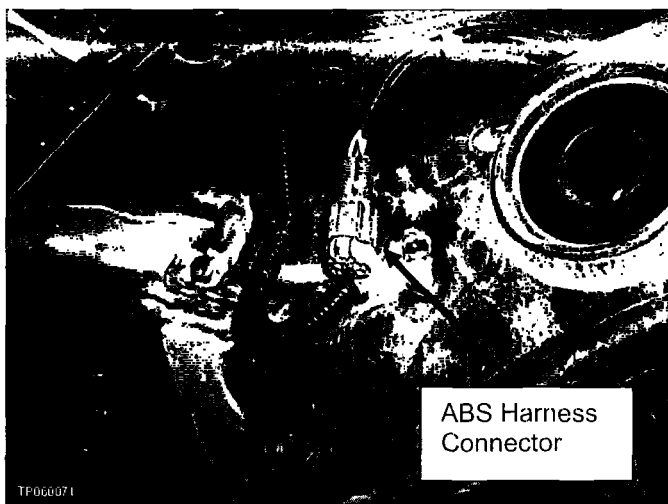
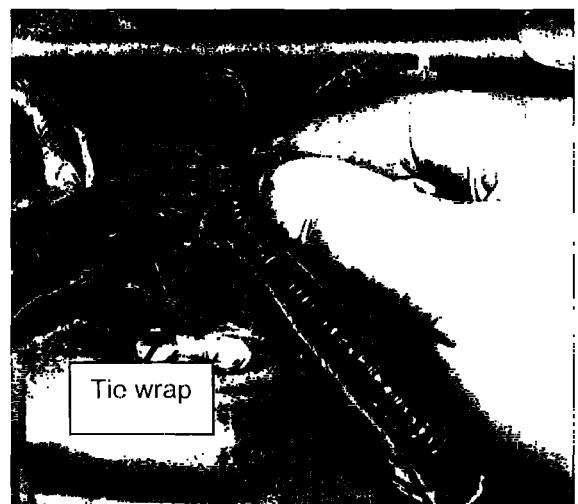

Figure 19a
Figure 19b
21. Disconnect the ABS harness connector (see Figure 19a). Then remove the tie wrap from the suspension member using a pair of needle-nose pliers (see Figure 19b).